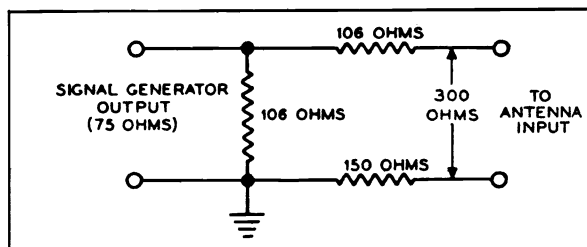

Fig. 1. Antenna-Input matching network.
An impedance-matching network for coupling the signal generator to the antenna input terminals of the receiver is shown in figure 1. This network, which is designed to have an input impedance of 75 ohms and an output impedance of 300 ohms is used to match a 75-ohm generator to a 300-ohm antenna-input circuit. The resistors used in this network should be of carbon-composition construction, and should be chosen from a group, to obtain values within ten percent of those indicated. The resistors should be placed in a shield can, to prevent variable effects. An antenna-matching jig, Philco Part No. 45-1736, which consists of a matching transformer and connecting box, may be used in place of the resistor network.
**SWEEP (FM) GENERATOR:** Connect to receiver antenna-input through Antenna-input Matching Network. (See figure 1.)
**SWEEP (FM) GENERATOR:** After step 9, connect to antenna-input circuit through antenna-input matching network. (See figure 1).